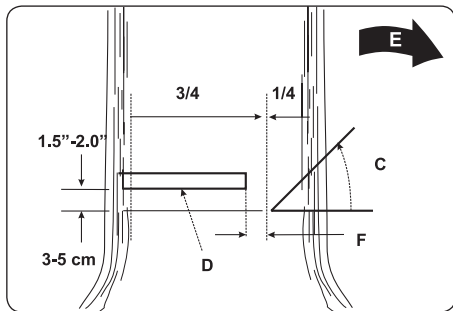

Fig. 13
Make the felling cut (D) from the other side of the tree and 3–5 cm above the edge of the notch (C) (Fig. 13).